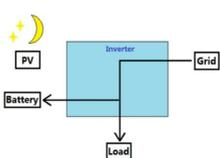

Figure 1-7(Grid abnormality)
- 1.PV and grid work together to supply battery and load (Figure1-7).